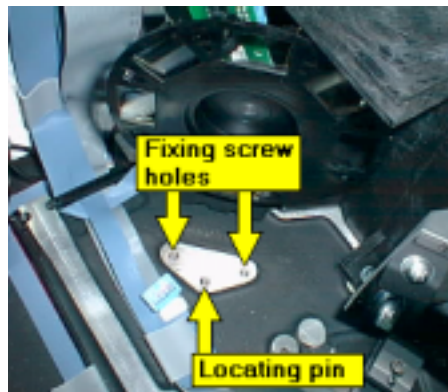

Figure 109 Fixing the emission polarizer wheel in position
7. Fix the emission polarizer into the emission filter wheel location, using the locating hole and pin for initial location of the wheel, as shown in Figure 109.